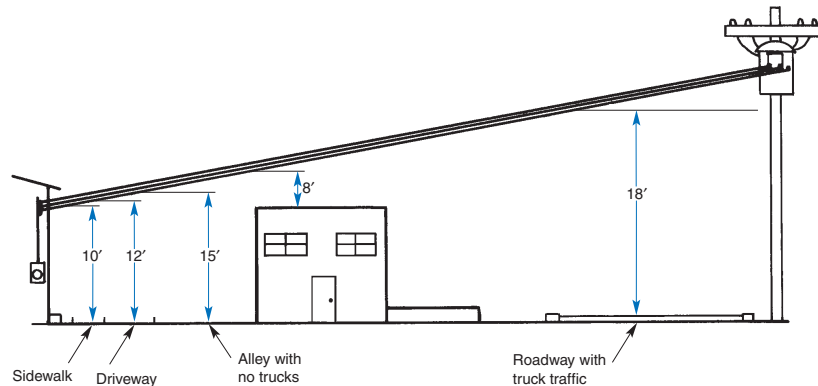

Figure 10-25. Above-grade minimum clearances.
- Above final grade, **Figure 10-25**